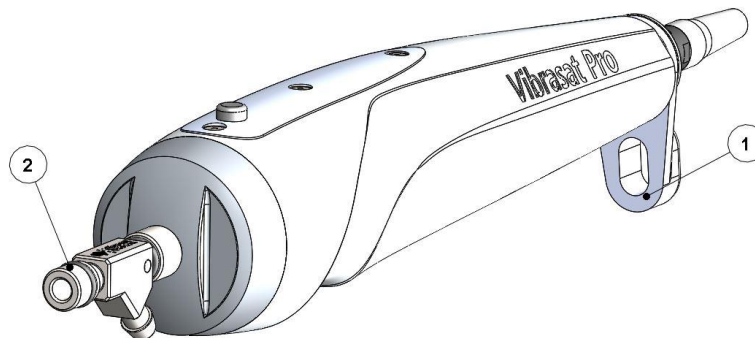

Figure 3
1. Push the tube through the tube holder on the rear end of the handle (*Figure 3, Point 1*).
2. Attach the suction tube to the tube connection of the cannula holder (*Figure 3, Point 2*).